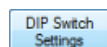

FIG. 20 Serial Connection option - DIP Switch Settings button
5. Click on the **DIP Switch Settings** command button (FIG. 20) to open the *DIP Switch Settings* dialog.